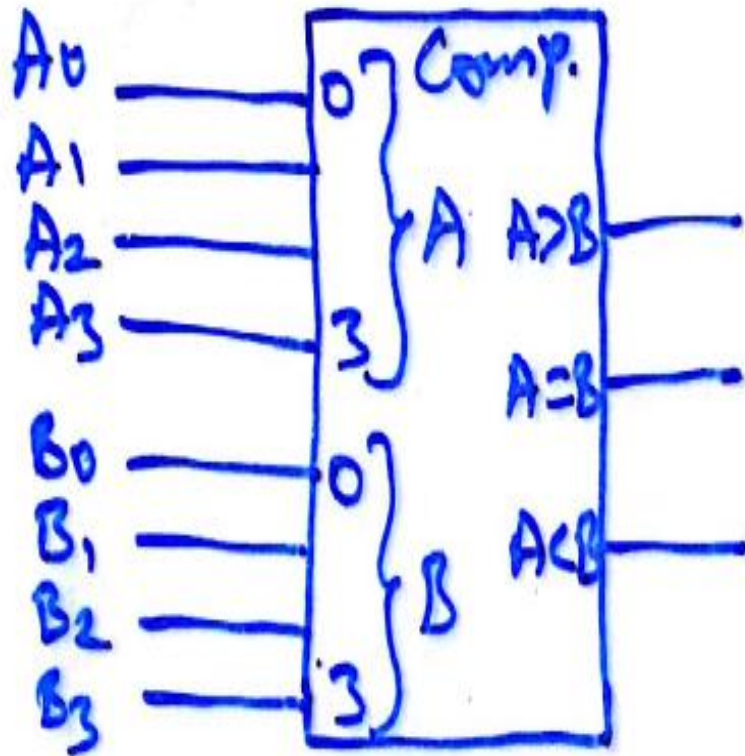

Figure 6-25 Logic symbol for a 4-bit comparator.
- The diagram shown in Figure 6.25 is the logic symbol for a 4-bit comparator.